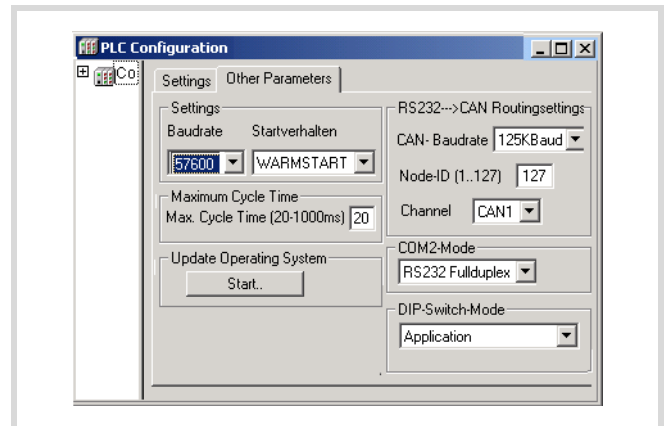

Figure 50: Specifying the CPU's communication settings
You can then change the CPU's parameters (→ figure 50), always making sure that you have the same settings on the PC.
- ▶ In the "Baudrate" list field, select the baud rate (for example 57 600 bit/s as shown in figure 50).